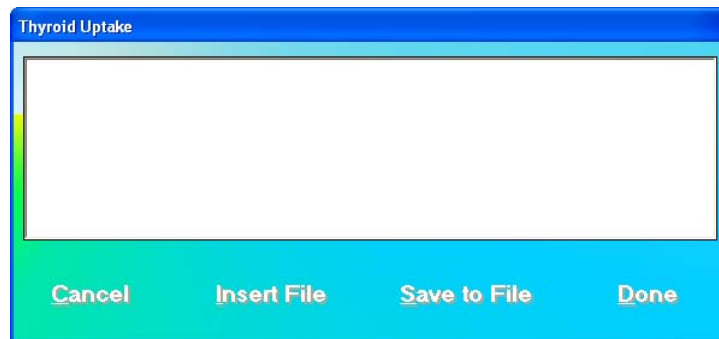

Figure 7-30
- To add comments to the report, click the **Enter Comment** button or press *Alt+C*. The screen appears as shown in Figure 7-30. Refer to CHAPTER 3: GENERAL OPERATING INSTRUCTIONS; SECTION: ADD COMMENTS SCREEN.